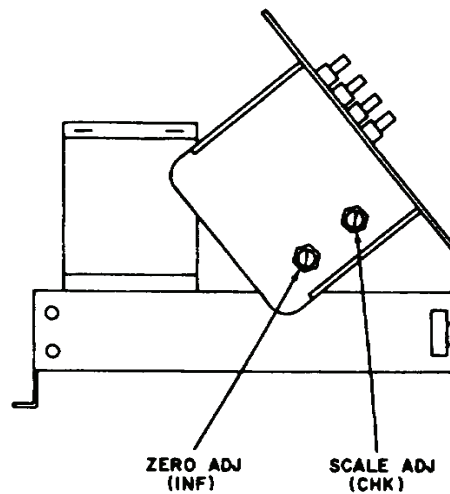

Figure 1. Megohmmeter - left view.
- i. Press and hold **TEST VOLTAGE** switch and adjust internal **ZERO ADJ (INF)** control (fig. 1) for **INFINITY** indication on **MEGOHMS** meter. Release **TEST VOLTAGE** switch.
(17) Turn TI MULTIPLIER switch to X100.
(18) Remove all resistance standards from equipment setup and connect resistance standard no. 4 for 100 MΩ to TI, using three appropriate leads.
(19) Repeat (9) above.
(20) Press and hold TEST VOLTAGE switch and adjust DC ADJUST control until VOLT meter indicates 0.5 on upper (MULTIPLY MEGOHMS BY) scale. TI MEGOHMS meter scale will indicate between 1.9 and 2.1.
(21) Repeat (17) through (20) above, except use MULTIPLIER X1K switch position and resistance standard no. 5 connected for 1000 MΩ. TI MEGOHMS meter scale will indicate between 1.9 and 2.1.
(22) Turn TI MULTIPLIER switch to X10K and remove resistance standard no. 5 from setup.
(23) Connect resistance standard no. 1 to TI RX + (plus) and RX - (minus) terminals using appropriate cable and adapter. Connect TI GUARD terminal to resistance standard case.
(24) Repeat (9) and (20) above. TI MEGOHMS meter scale will indicate between 1.9 and 2.1.
**b. Adjustments.** Adjust SCALE ADJ (CHK) control (fig. 1) until TI MEGOHMS meter pointer deflects to 2 (CHK) red line.